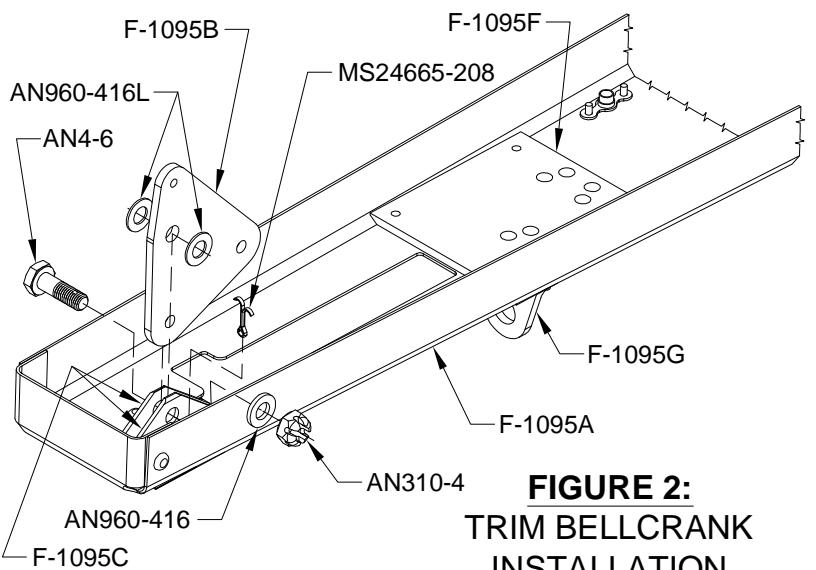

FIGURE 2:
Step 2: Study Figure 2 until you understand the proper installation of the F-1095B Trim Bellcrank between the F-1095C Trim Bellcrank Brackets. Pay particular attention to the orientation of the trim bellcrank. Note that two thin washers are used as spacers between the trim bellcrank and the trim bellcrank brackets.
Permanently install the trim bellcrank as shown in Figure 2.